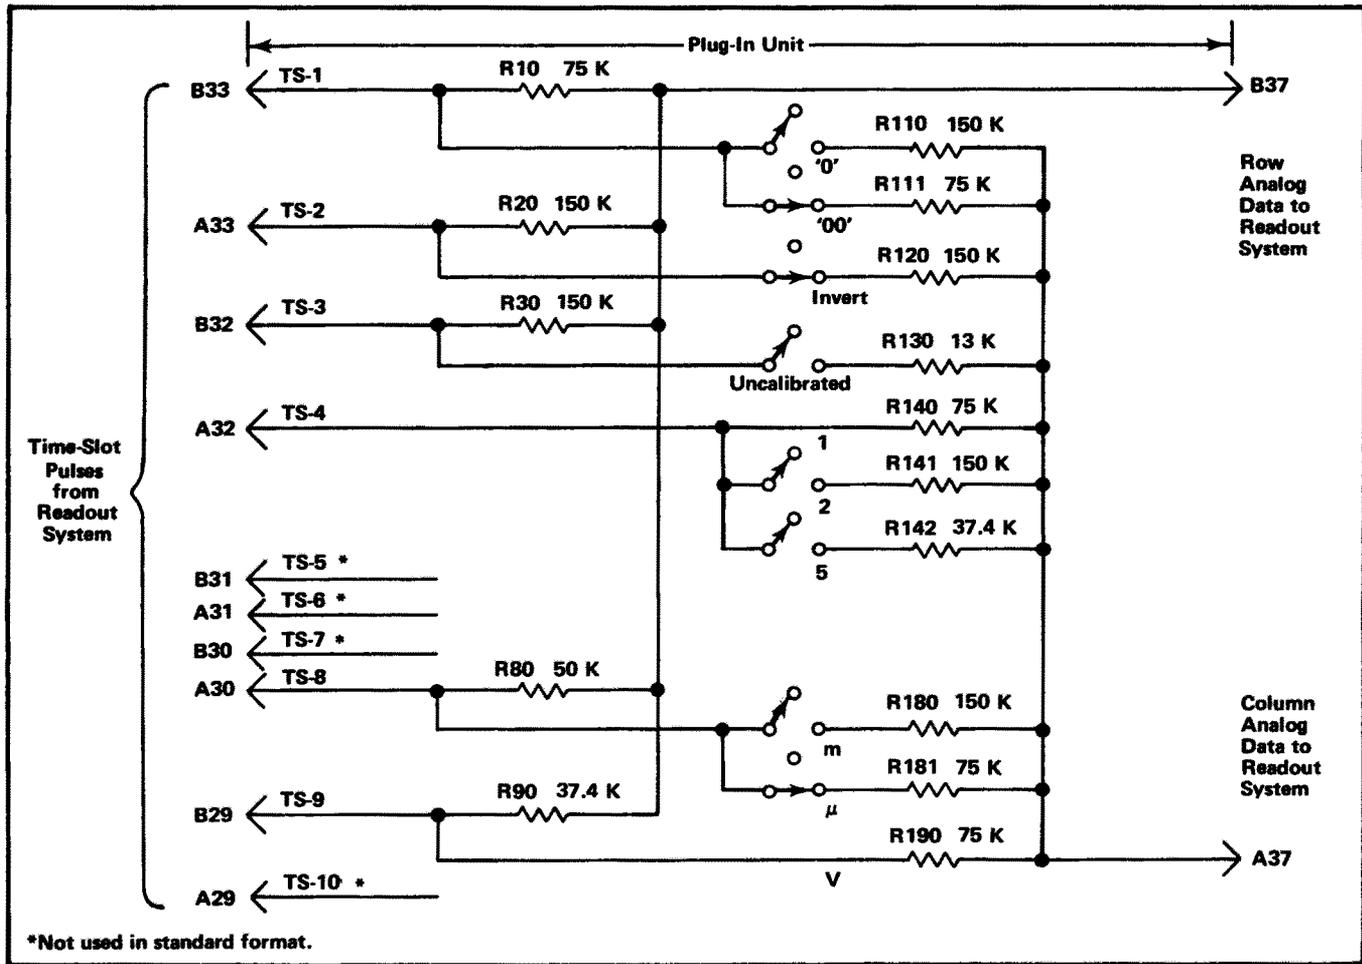

Fig. 3-32. Typical encoding scheme for voltage-sensing amplifier plug-in unit. Coding shown for deflection factor of 100 microvolts.
Data is conveyed from the plug-in units to the Readout System in the form of an analog code having up to 11 current levels (from zero to one milliampere in 100 microampere steps). The characters which can be selected by the encoded data are shown on the Character Selection Matrix (see Fig. 3-25). Each character requires two currents to define it; these currents are identified as the column current and the row current which correspond to the column and row of the matrix. The column and row data is encoded by resistive programming in the plug-in units. Fig. 3-32 shows a typical encoding scheme for a voltage-sensing amplifier plug-in unit. Notice that the 10 time-slot (TS) pulses produced by the Time-Slot Counter stage are connected to the plug-in unit. However, time-slots 5, 6, 7, and 10 are not used by the plug-in unit to encode data when using the Standard Readout Format (see Table 3-2 for Standard Readout Format). The amplitude of the time-slot pulses is exactly -15 volts as determined by the Timer stage. Therefore, the resultant output current from the plug-in units can be accurately controlled by the programming resistors in the plug-in units.
For example, in Fig. 3-32, resistors R10 through R90 control the row analog data which is connected back to the Readout System. These resistors are of fixed value and define the format in which the information will be presented by the Readout System. Fig. 3-33A shows an idealized output current waveform of row analog data which results from the 10 time-slot pulses. Each of the steps of current shown in these waveforms corresponds to 100 microamperes of current. The row numbers on the left-hand side of the waveform correspond to the rows in the Character Selection Matrix shown in Fig. 3-35. The row analog data is connected back to the Readout System via terminal B37 of the plug-in interface.
The Column analog data is defined by resistors R110 through R190. The program resistors are connected to the time-slot lines by switch closures to encode the desired data. The data as encoded by the circuit shown in Fig. 3-32 indicates a 100 microvolt sensitivity with the display inverted and calibrated vertical deflection factors. This results in the idealized output current waveforms shown in Fig. 3-33B at the column analog data output, terminal A37 of the plug-in interface. Resistor R111, connected between time-slot 1 and the column analog data output, encodes two units of current during time-slot 1. Referring to the
connectors of vertical plug-in units. A special coding ring around the input connector of the plug-in unit senses the attenuation ratio of the probe (with readout-coded probes only). The probe contains a resistor which results in additional column current. For example, if a 10X attenuator probe is connected to a plug-in with the coding for 100 microvolts as shown in Fig. 3-32, an additional unit of current is added to the column analog data during time-slot 1. Since two units of current were encoded by R111 (see Fig. 3-32), this additional current results in a total of three units of column analog current during this time-slot. Referring to the Character Selection Matrix, three units of column current along with the two units of row current encoded by R10 indicates that the prefix should be reduced. Since this instruction occurs in the same time-slot which previously indicated that two zeros should be added to the display and only one instruction can be encoded during a time-slot, the zeros do not appear in the display. The CRT readout will now be changed to 1 mV (readout) program produced by plug-in same as for previous example.